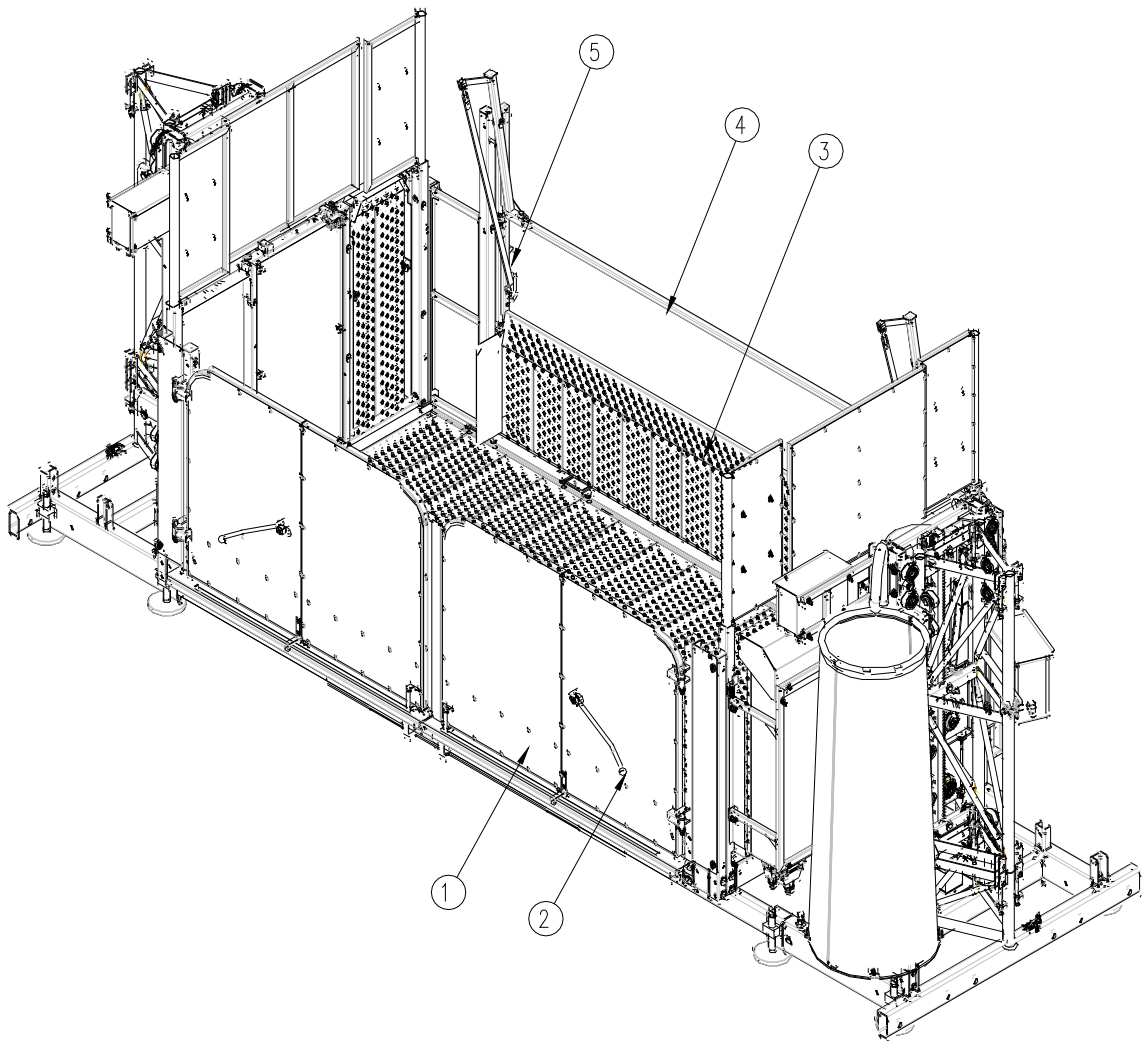

Fig.I.04 Entrance gate / Exit ramp
- Unlock the locking elements (2-fig.I.04) and open the foldable gate (1-fig.I.04). It is now no longer possible to operate the transport platform. The foldable gate movement activates a limit switch which interrupts the safety circuit.
- Unlock the mechanical lock (5-fig.I.04) and lift the safety bar of the unloading ramp (4-fig.I.04). It is now no longer possible to operate the transport platform, since a limit switch has interrupted the safety circuit. The unloading ramp (3-fig.I.04) will open automatically, resting on the landing sill.
- Unlock the locking elements (2-fig.I.04) and open the foldable gate (1-fig.I.04). It is now no longer possible to operate the transport platform. The foldable gate moving has activated a limit switch which interrupts the safety circuit.
- With the landing gate closed, unlock the mechanical lock (5-fig.I.04) and lift the safety bar of the unloading ramp (4-fig.I.04). It is now no longer possible to operate the material hoist, since a limit switch has interrupted the safety circuit. The unloading ramp (3-fig.I.04) will open automatically, resting on the landing sill.